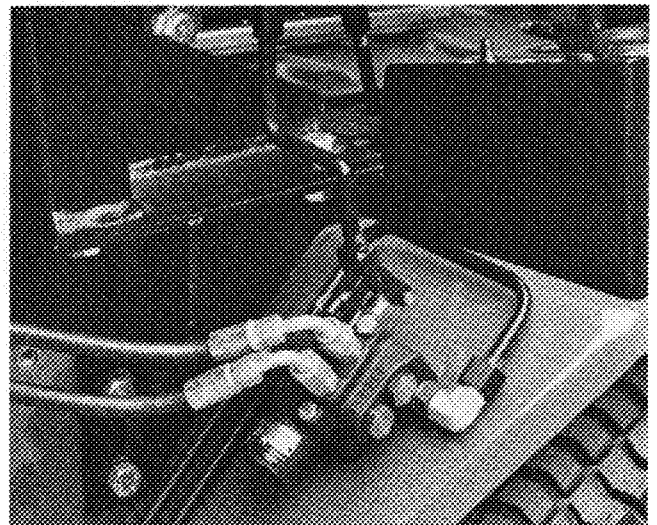

Figure 4
11. Connect hydraulic hose assemblies to fittings on front of control valve (Fig. 4). Make sure o-rings are in position. Install protective sleeve over hoses. Remainder of installation will be completed after hopper frame is installed.